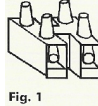

Fig. 1
6. If you are using terminal blocks (see Fig. 1), insert the stripped Flat Wires into one end of the terminal block and tighten with a small flatblade screwdriver.